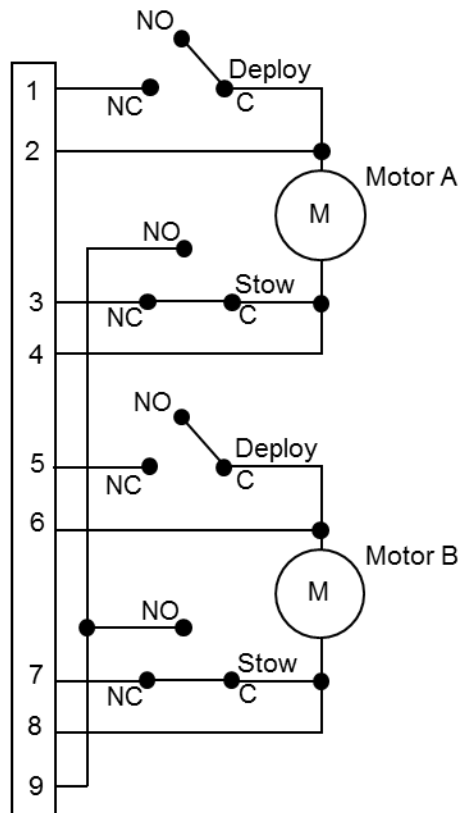

Figure 32: Switch state after Lightband has been deployed.
9.1.16	Figure 32 shows the state of the switches in the Motor Bracket Assembly after the Lightband has been properly deployed. Measure resistance directly at the Lightband's DB-9 connector by completing Table 4. See Figure 44. Contact PSC if a discrepancy is found.